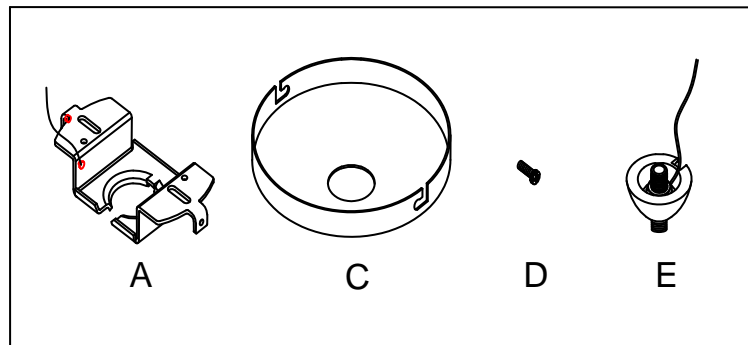

Fig.2
SUGGESTED INSTALLATION (Fig. 2)
3. Attach the mounting plate (A) to the junction box using screws (B) as shown in Fig. 2.
4. Determine the desired hanging height and thread rods (F1, F2, F3) to the Socket Cup (G). Pass the wires carefully through each rod as you assemble.
5. Place the canopy (C) over the rods (F) and thread the hanger ball (E) to rods (F). Please remove the nipple if installing with one 6" rod only.
6. Install the fixture body into the mounting plate (A) by tilting at a slight angle so that the hanger ball (E) slips into the mounting plate (A) as shown. Align the notch in the hanger ball (E) to the tab on the mounting plate (A) to prevent the fixture from turning.